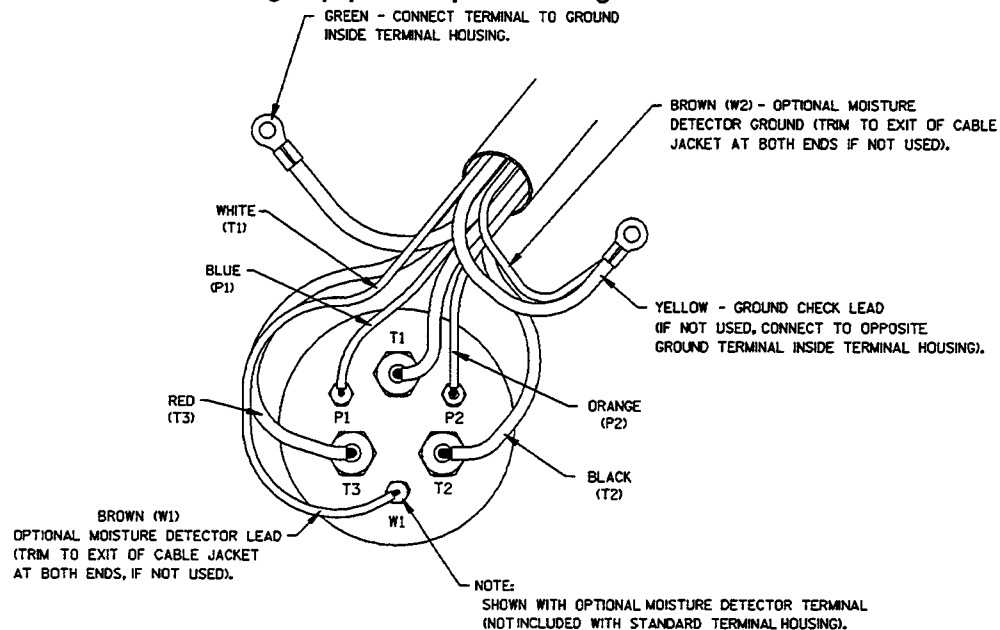

Figure 7. Terminal Housing Wiring Connections
Slide a length of heat-shrink tubing up over each of the power cable leads. Insert the standard power cable leads into the large terminal collars (24), and secure them with the setscrews (25). Insert the control leads into the small terminal collars (12) and secure them with the setscrews (11). See Figure 7 for wiring connections.